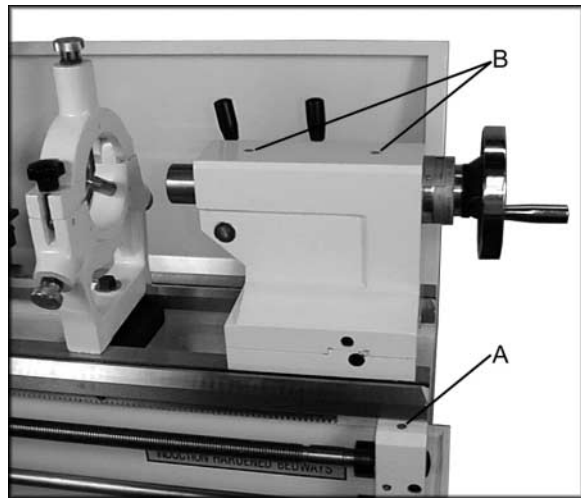

Figure 8
4. **Leadscrew Feed Rod** - lubricate ball oiler (A, Fig. 8) on leadscrew/feed rod bracket with Mobil DTE® Oil Heavy Medium once daily.
5. **Tailstock** - lubricate two ball oilers (B, Fig. 8) on tailstock with Mobil DTE® Oil Heavy Medium once daily.